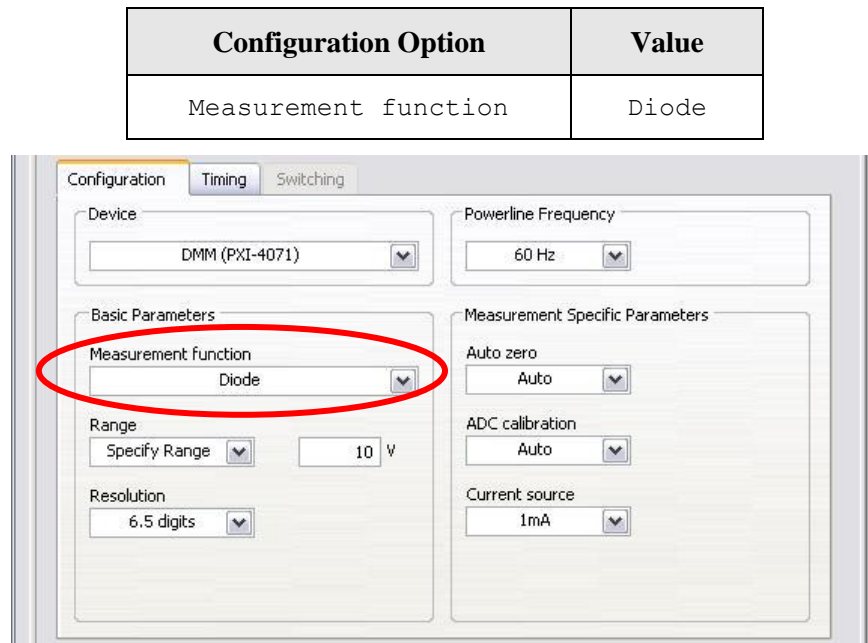

Figure 9 NI-DMM/Switch Express Dialog Box
- d. Configure the NI-DMM Express dialog box as shown in Figure 9.